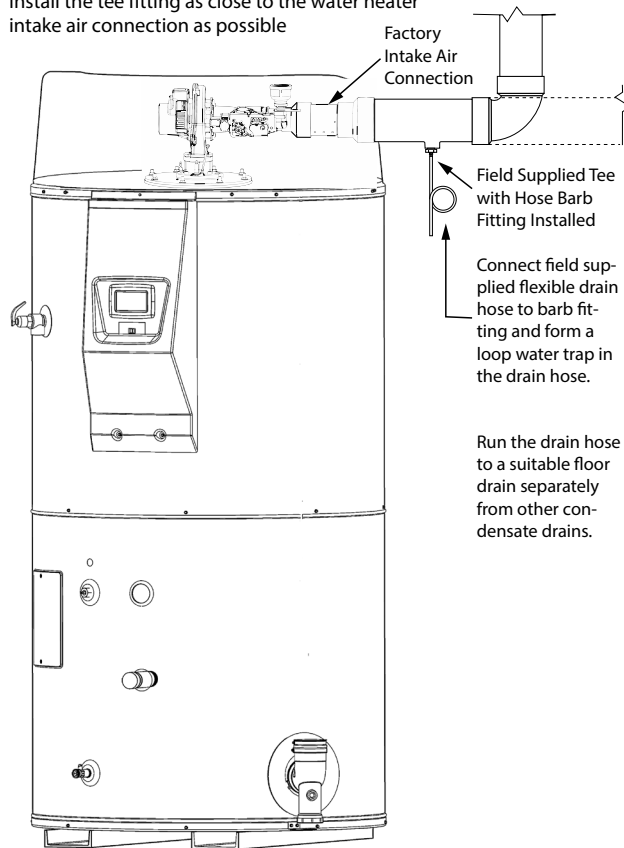

Figure 23. Intake Air Condensate Tee Installation
9. A field-supplied condensate Tee fitting and drain hose shall be installed in the intake air piping near the water heater in colder climates with heavy snow accumulations and in areas that regularly experience high humidity. The drain hose should be routed to an adequate floor drain separate from any other condensate drains. See **Figure 23** (page 35).
Installations with any of these conditions are required to provide a moisture drain with a trap that flows to a waste drain. See **Figure 23**. A horizontal section of the air inlet pipe, near the heater should include a tee and a hose barb fitting to drain the water. The tee should be as close to the heater as is practical. The drain tubing in any installation should have a loop trap and flow to an appropriate waste drain. The air intake drain line must be entirely separate from the exhaust vent outlet condensate line.